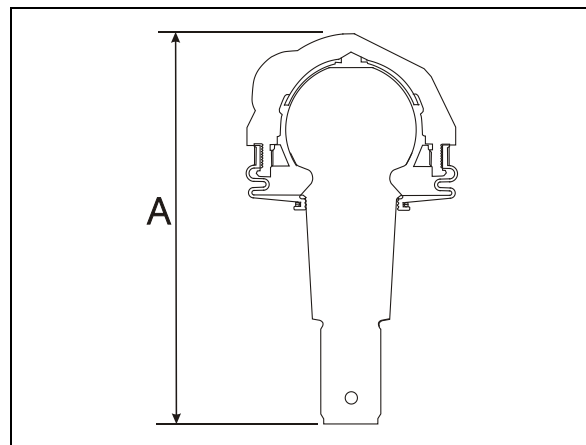

FIGURE 17: UPPER A-ARM BALL JOINT 16116
2. Using a caliper, measure dimension "A" on Figure 17.